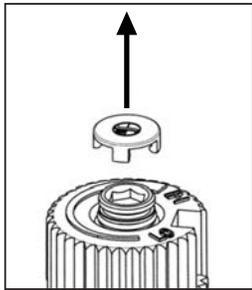

Figure 15: Removing Valve Cap
- a) Remove the black protection cap from the HI/LO knob (see Figure 15).